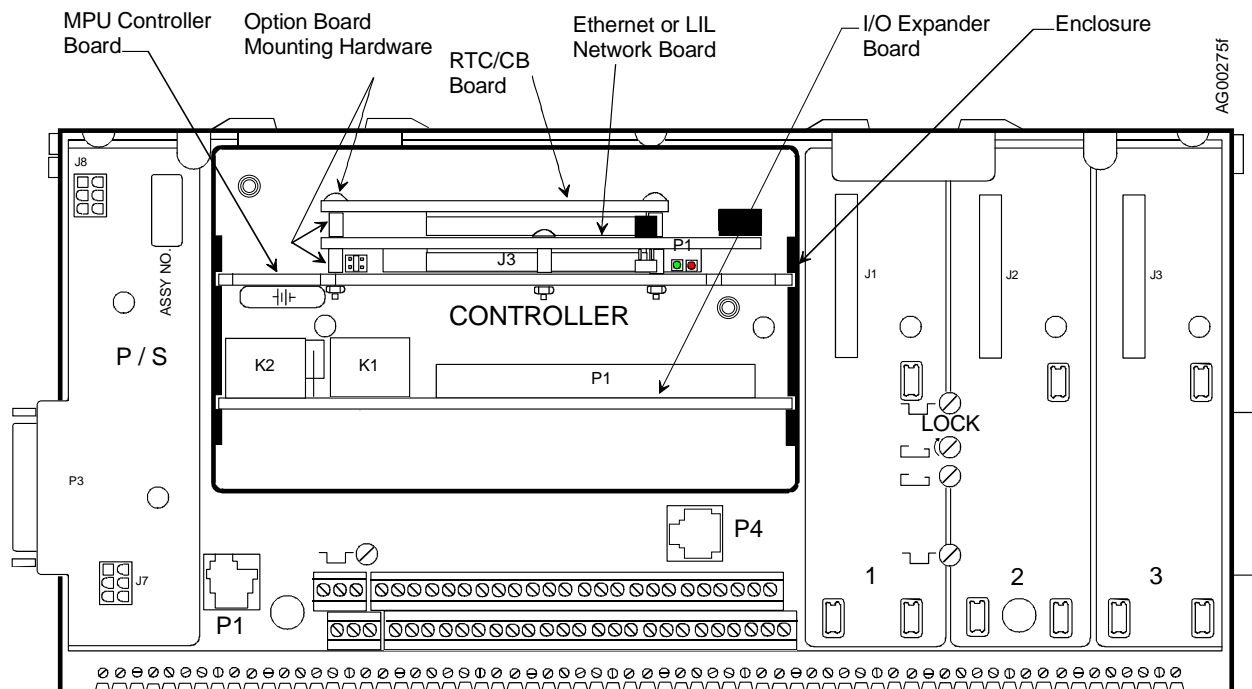
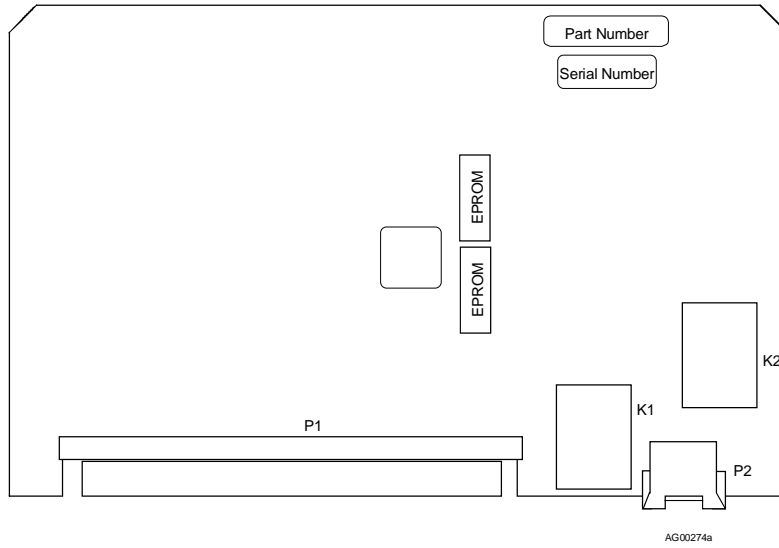
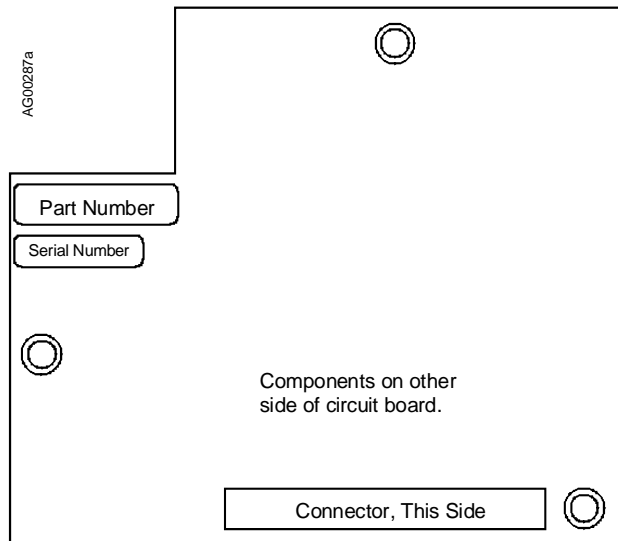
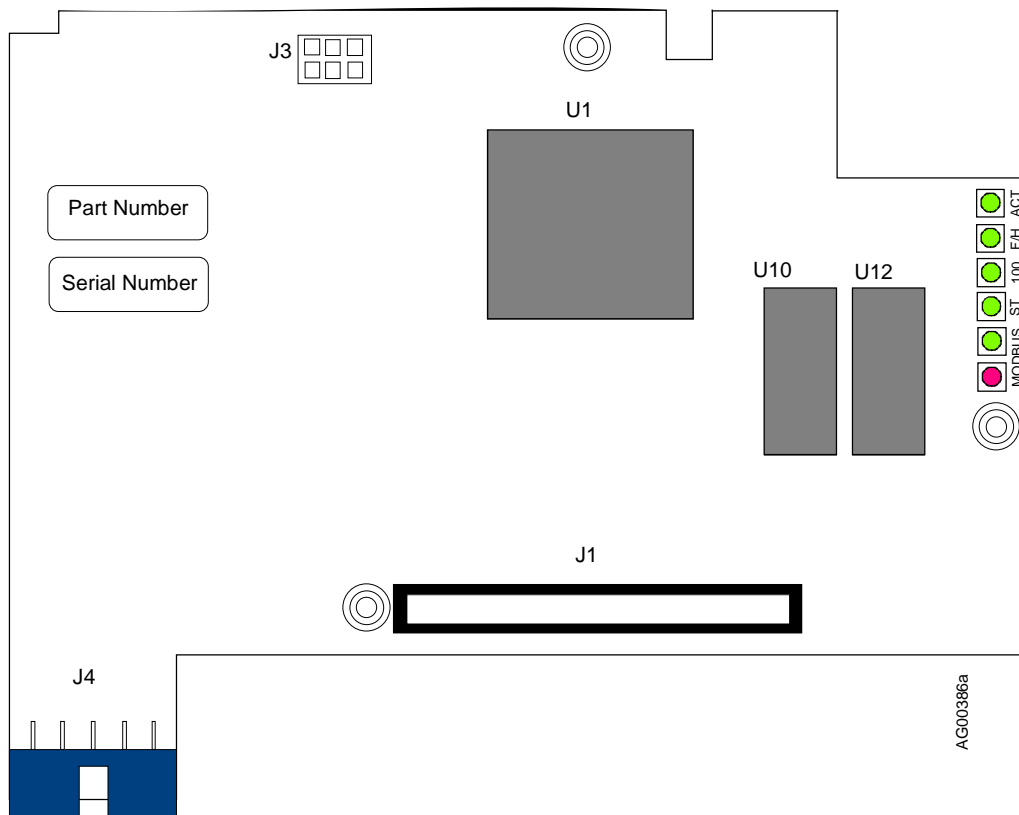

FIGURE 13-4 Control Module Circuit Boards
FIGURE 13-6 I/O Expander Board
FIGURE 13-7 LIL Network Board
FIGURE 13-8 Ethernet Board
The following describes replacement of 353R assemblies. Common hand tools for electronic equipment servicing are needed and a torque screwdriver, calibrated in inch-pounds, is recommended. Before handling an assembly, refer to the Circuit Board Handling section for electrostatic discharge prevention procedures. See Figure 13-4 for a view of the controller that shows field replaceable assemblies and individual parts.
The control module includes the MPU Controller board and can house additional boards depending upon controller model number; see Figure 13-4. Access to the boards in the control module is described below.
4. Pull an individual board or a board stack from the enclosure by grasping a board by an exposed edge. See Figure 13-4.
Refer to Figures 13-4 and 13-5. The board has a lithium battery; refer to the Board Handling Precautions section. After replacing an MPU Controller board, configuration parameters must be re-entered. Refer to Section 3 Configuration Overview and Section 4 Function Blocks as needed. Factory repaired controllers must also be configured.
Refer to Figure 13-4 for board location. The board is shown in Figure 13-6. Follow the Board Installation procedure below to insert the board into the Controller enclosure.
Refer to Figure 13-4 for board location, connection notes, and mounting hardware. See Figure 13-7 shows the board and its LEDs. The board mechanically fastens and electrically connects to the MPU Controller board as shown. Carefully align connectors and apply force to seat them.
Refer to Figure 13-4 for board location, connection notes, and mounting hardware. Figure 13-8 shows the board and its LEDs. The board mechanically fastens and electrically connects to the MPU Controller board as shown. The board also connects to J11 on the control carrier. W2, the LIL/Modbus Network Jumper, is located on the MPU Controller board and must engage J3 on the Ethernet board. If installed, remove the W2 shunt before installing the Ethernet board. Save the removed shunt.
Refer to Figure 13-4 for board location and assembly hardware. The board is shown in Figure 13-9 and typically mounts on and electrically connects to either a LIL Network board, or an Ethernet board. If one of these boards is not installed, the RTC/CB board will mount directly on and electrically connect to the MPU Controller.
2. The MPU Controller board may have several attached boards secured by spacers and screws. Refer to Figure 13-4 for board location and fasteners. Refer to the board comments above for jumpering and other information before attaching a board to the MPU Controller board.